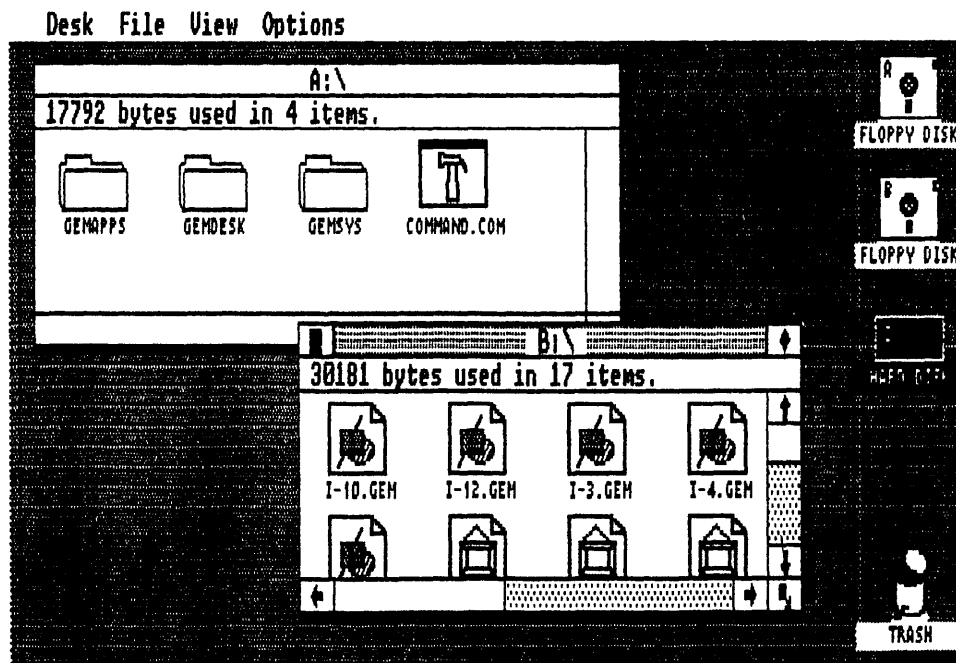

Fig. 1-1. GEM Desktop with two active floppy disk drives and one active hard disk drive.
4. After running through all of the subdirectories, the GEM Desktop will appear (see Fig. 1-1).
No matter which path you take, the final result is the GEM Desktop seen in Figures 1-1 and 1-2. There are five distinct elements that make up the GEM Desktop: the desktop work area, the Menu Bar, the disk icons, the trash icon, and the pointer. Each of these elements functions in a manner that is similar to the function of their analog office cohorts.